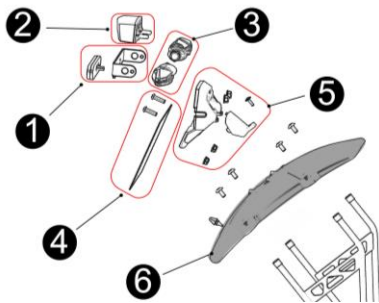

Fig 54
11.25 Disassemble rear fender assembly(see Fig 54)